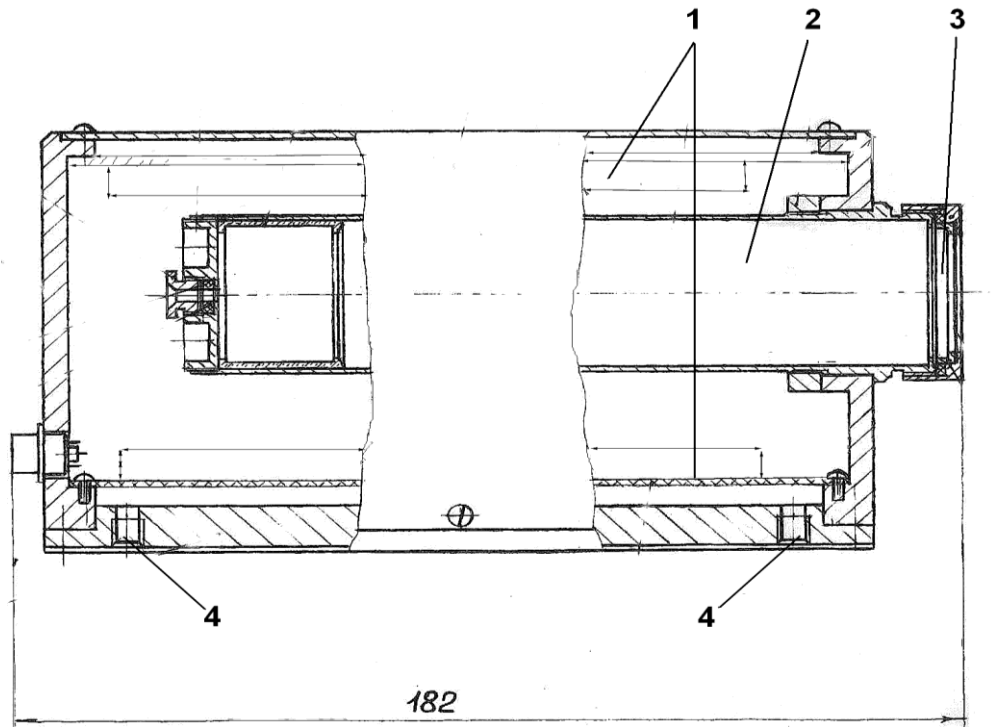

Figure 1. Spectrometer design
Structurally SGS-4 performed in compact metal case (Fig. 1). The inside of the device consists of printed-circuit boards (1), photomultiplier tube (2) and scintillation crystal NaI(Tl) (3). On the bottom there are two mounting holes (4) for the bench.